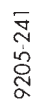

FIG. 10 BRAKE LINE ROUTING NON ABS BRAKES
Flexible rubber hose is used at both front brakes and at the rear axle. Inspection of brake hoses should be performed whenever the brake system is serviced and every 7,500 miles or 12 months, whichever comes first (every engine oil change). Inspect hydraulic brake hoses for severe surface cracking, scuffing, or worn spots. Should the fabric casing of the rubber hose be exposed due to cracks or abrasions in the rubber hose cover, the hose should be replaced immediately. Eventual deterioration of the hose can take place with possible burst failure. Faulty installation can cause twisting and wheel, tire or chassis interference (Figs. 10, 11 and 12).
Place gauge (Form A) on edge over end of brake tubing. Push tubing through jaws until end of tubing contacts the recessed notch in gauge matching the tubing size. Squeeze handles of flaring tool and lock tubing in place. Place 3/16 inch plug of gauge (A) down in end of tubing. Swing compression disc over gauge and center tapered flaring screw in recess of disc. Screw in until plug gauge has seated on jaws of flaring tool. This action has started to invert the extended end of the tubing. Remove gauge and continue to screw down until tool is firmly seated in tubing. Remove tubing from flaring tool and inspect seat. Refer to routing diagrams (Figs. 10 to 12) for proper routing and clip location. Replace any damaged tube routing clips.